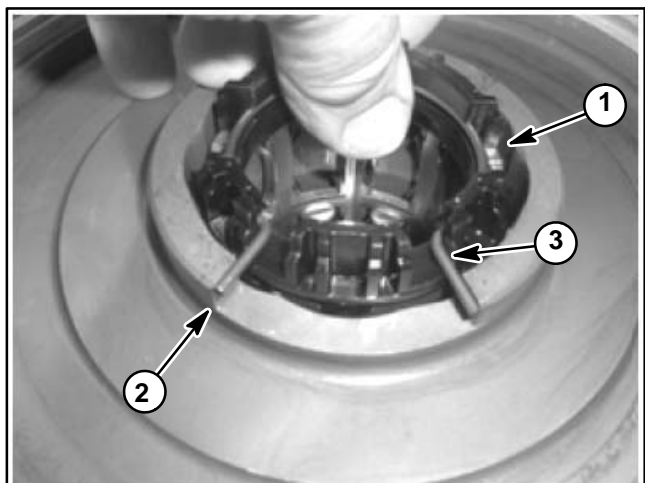

Figure 26
9. Align torsion spring on roller cage with the slot in the ring gear and then carefully lower the cage assembly into the ring gear bore (Fig. 26). The torsion spring must align and fit into the notch cut into the ring gear.
10. Install remaining nine (9) rollers into the top row of the roller cage assembly. Place the rollers into the roller cage slots and press them out toward the ring gear bore.